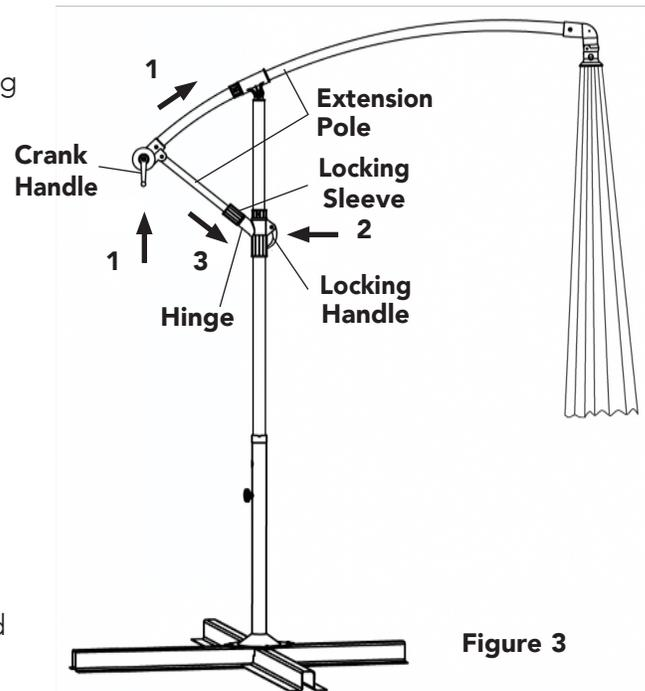

Figure 3
Push Extension Pole up (1), with umbrella moving away from base, until it stops, as shown in Figure 3.